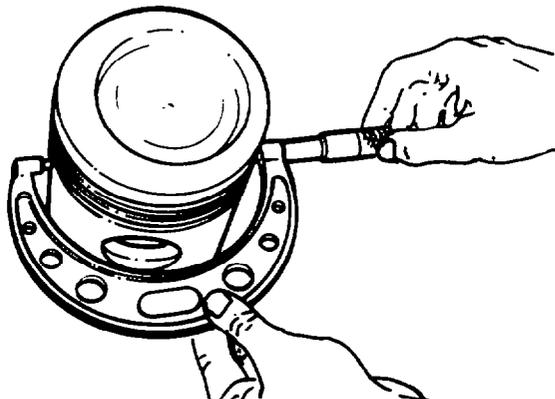

Fig. 77 — Measuring Piston
- b. Measure the diameter of the piston; take the measurement across the major axis of the piston skirt approximately 12 mm (0.5 in.) below the oil-control ring groove (see fig. 77). Measure the internal diameter of the cylinder bore and compare the two measurements to obtain the piston-to-liner running clearance; the measurements must be within specifications (refer to Table 3). Stamp the cylinder number into one of the valve recesses in the piston crown. Repeat this process for each piston.